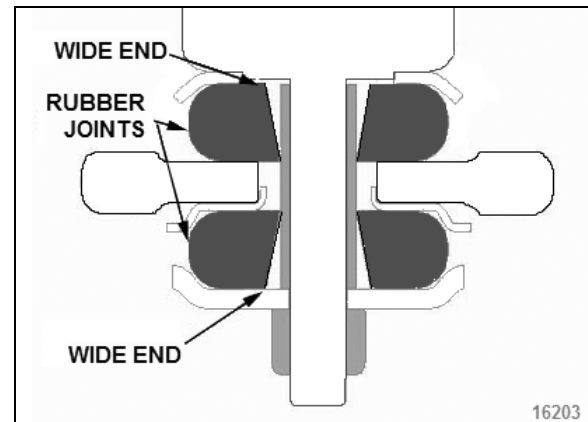

FIGURE 14: LOWER SHOCK MOUNTING BUSHINGS
- On the lower mounting, take care to install the rubber joints with the wide end of the tapered hole as shown in Figure 14.